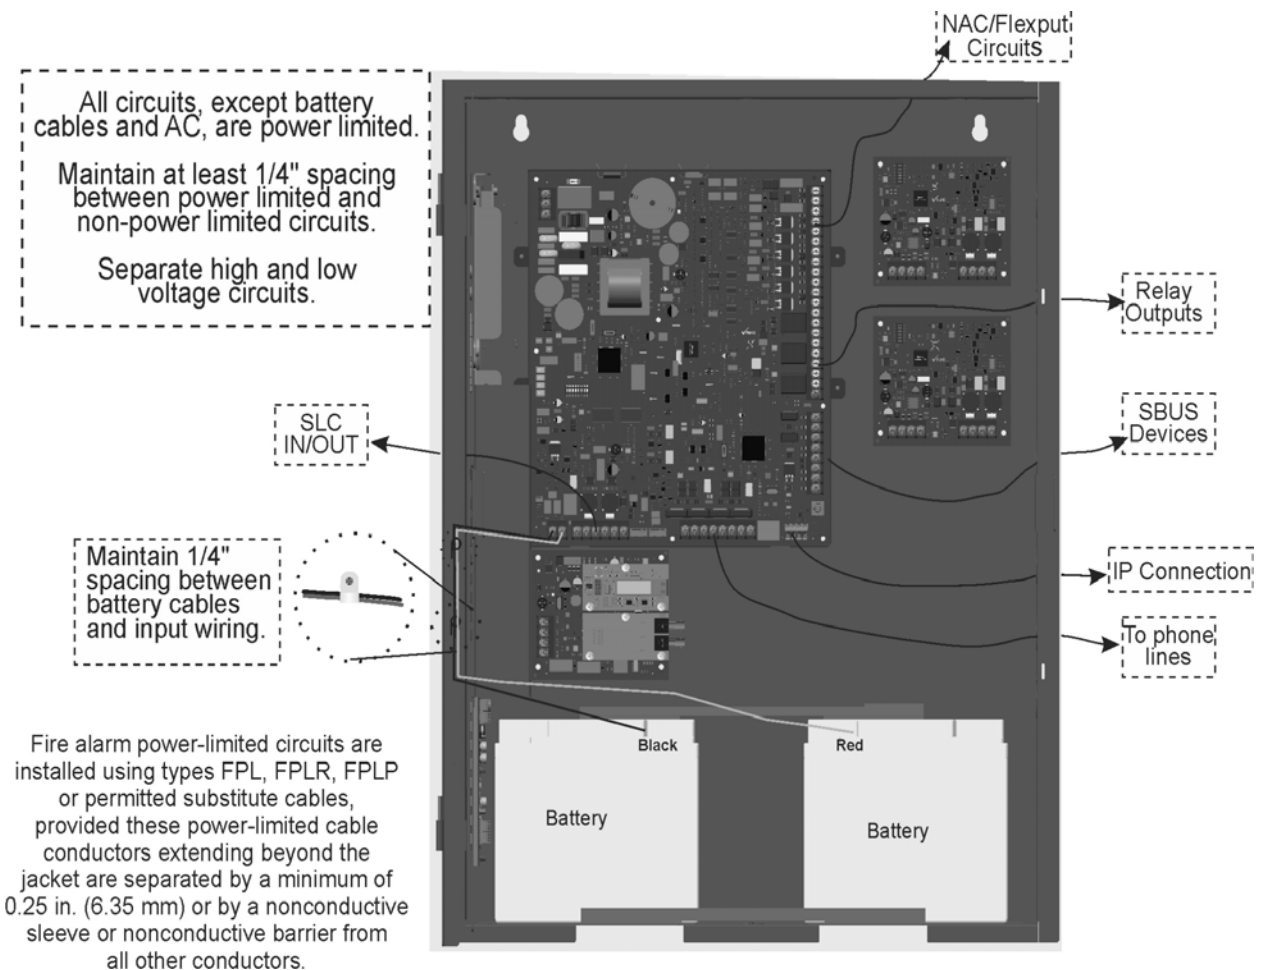

Figure 3.1 Wire Routing Example for 6820/EVS
- Route the wiring around the inside perimeter of the cabinet. It should not cross the circuit board where it could induce noise into the sensitive microelectronics or pick up unwanted RF noise from the high speed circuits. See Figure 3.1 for an example.